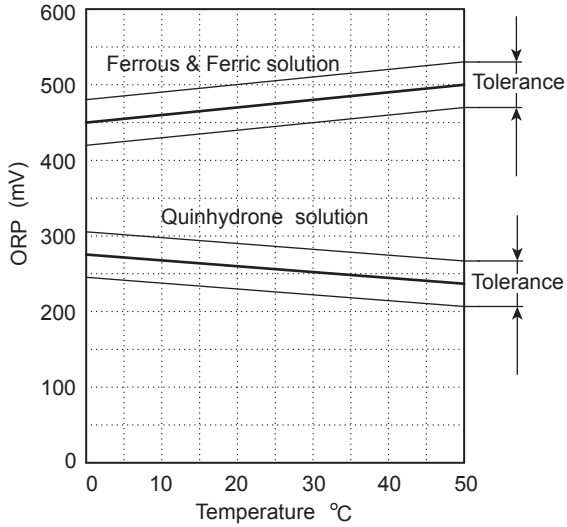

Figure ap1 ORP of Test Solution
To determine whether the ORP electrode is normal or not, a solution of known ORP is measured to check if the measured value is within tolerance (see Figure ap1). This is done in measurement mode.
- (2) Transfer about 50-100 ml of test solution to a clean 200 ml beaker.
- (3) Remove the ORP sensor from its holder. If an immersion holder is used, first remove the holder then remove the (sensor) protector from the holder.
- (4) Wash off any of the measured solution adhering to the sensor using tap water, then wipe off any moisture droplets adhering to the sensor.
- (5) Immerse the sensor tip in the test liquid (see (2) above), wait for the ORP reading to stabilize (this typically takes 5 to 10 minutes).
- (6) After the display reading has stabilized, read and note it. Measure the temperature of the test solution, and check the ORP of the test solution at that temperature using Figure ap1.
If the ORP reading is within the tolerance shown in Figure ap1 then the sensor is normal.